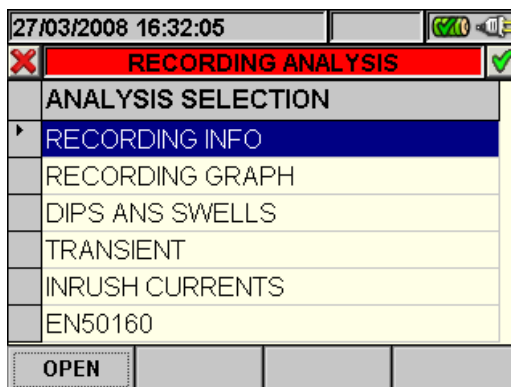

Fig. 96: Recording analysis (Reg-type data)
2. Press the **ESC** key (or the smart icon ) to exit the function and go back to the "Recording analysis" page (Fig. 96).
- The **ESC** key (or smart icon ) to exit the function and go back to the "Recording analysis" page (Fig. 96).
- The **ESC** key (or smart icon ) to exit the function and go back to the “Recording analysis” page (Fig. 96).